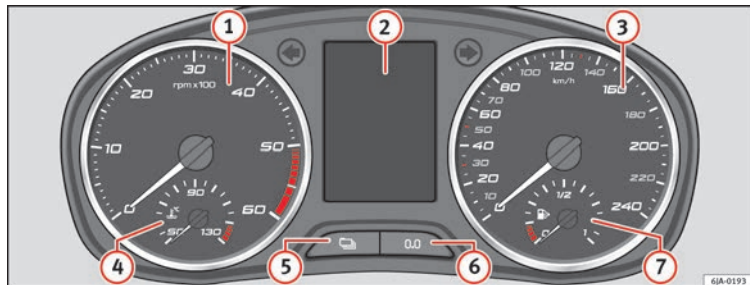

Fig. 24 General dash panel.
The red part of the rev counter scale ① » Fig. 24 » page 30 marks the area where the engine control unit begins to limit the engine speed. The engine control unit is responsible for reducing the revs to a safe limit.
The coolant temperature gauge ④ » Fig. 24 » page 30 only works when the ignition is switched on.
The fuel gauge ⑦ » Fig. 24 » page 30 operates only when the ignition is switched on.
In order to reset the daily distance covered keep the button **6** » **Fig. 24** » **page 30** pressed down.
The clock is set using the buttons **5** to **6** » **Fig. 24** » **page 30**.